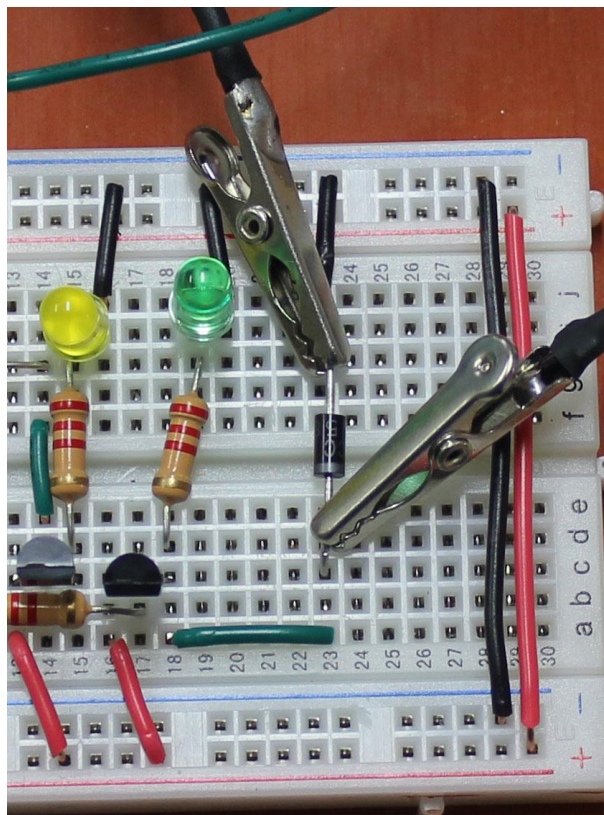

Figure 14
4. Using two wire jumpers with alligator clips, attach one clip of each jumper to a lead of the Schottky diode (Figure 14). Connect the other ends of the wire jumpers to the wires of the motor (not shown). Your wiring is now complete and ready for testing. But first, have an adult check your wiring. It is especially important that you have inserted the diode properly. Otherwise you may damage the transistor when testing your circuit.